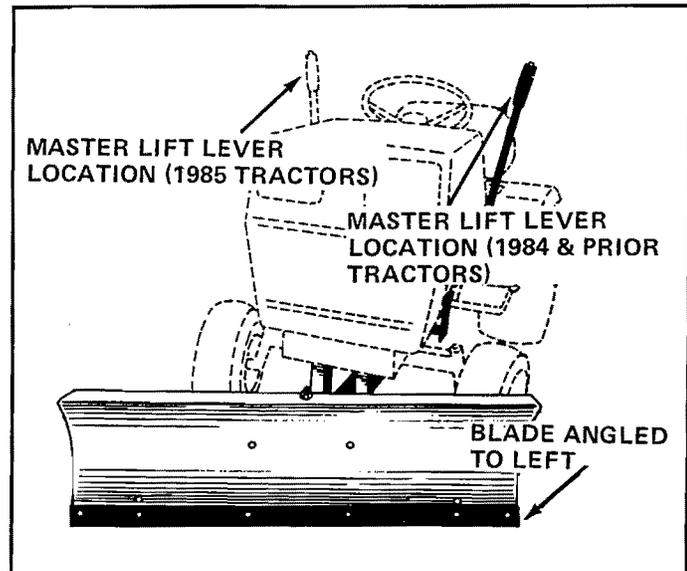

FIGURE 15
4. Blade angle can be adjusted at blade pivot in front of tractor to the right, center or left by pulling back on angle lock bars and pivoting the blade head. See figure 15.